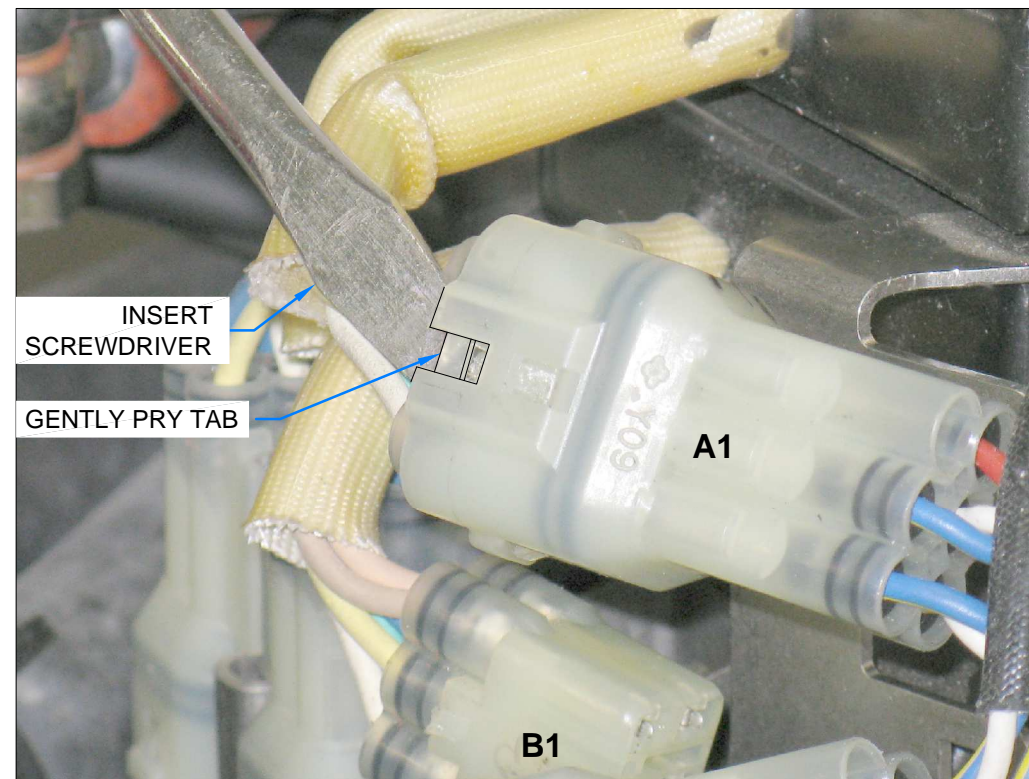

FIGURE 3: SEPARATING CONNECTOR HALVES
Step 5: Separate the two connector halves of the A1 & B1 connectors by gently separating the single tab as shown in Figure 3 and then pulling them apart. Do not reconnect these connectors until directed to do so later in this section.